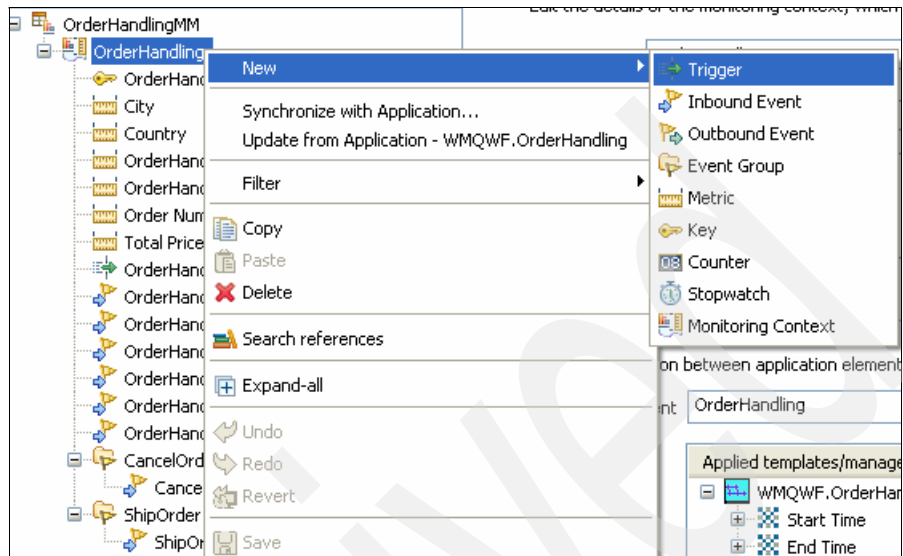

Figure 8-67 Adding a trigger
11. Right-click **OrderHandling** and select **New** → **Trigger** to add a trigger (Figure 8-67).